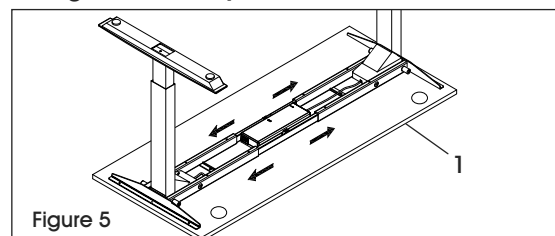

Figure 5
6. Place desktop (1) upside down on a smooth, non-marring surface to prevent scratching. Grommets should be facing down.
7. Place adjustable frame on top of desktop (1). Adjust position of adjustable frame so that it is centered on the desktop. (See Figure 5)